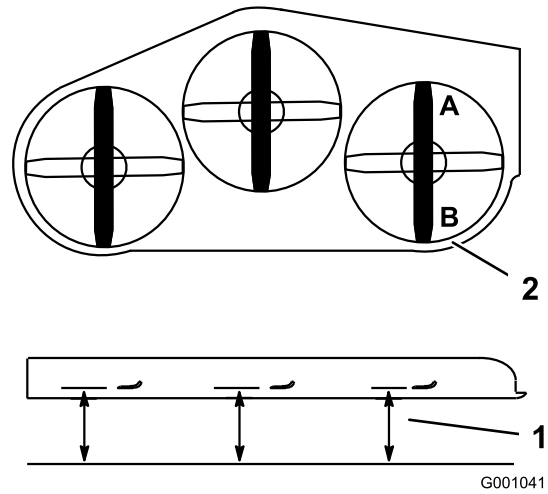

Figure 78
1. Position the right blade front-to-rear (Figure 78).
2. Measure the right blade at the **A** location, from a level surface to the cutting edge of the blade tip (Figure 78).
4. Measure the right blade at the **B** location, from a level surface to the cutting edge of the blade tip (Figure 78).
6. The mower blade should be 1/4 to 3/8 inch (6 to 10 mm) lower at position **A** than at position **B** (Figure 78). If it is not correct, proceed to the following steps.